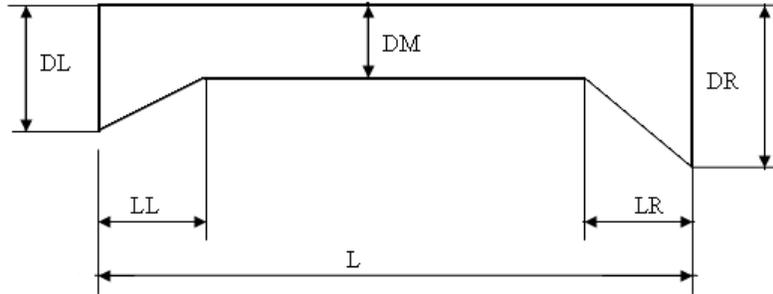

Figure 4.28
The left and right haunches of the non-prismatic members may be of type linear, parabolic or straight. You must define the geometry (Figure 4.28) including middle depth (DM), left depth (DL), right depth (DR), width, left length ratio (LL / L), right length ratio (LR / L). Each of the selected prismatic members will be exploded into multiple prismatic members to approximate the non-prismatic member’s behavior. Appropriate member sections will be automatically added and assigned in the model. Existing loads on the selected prismatic members will be assigned to the new members appropriately.